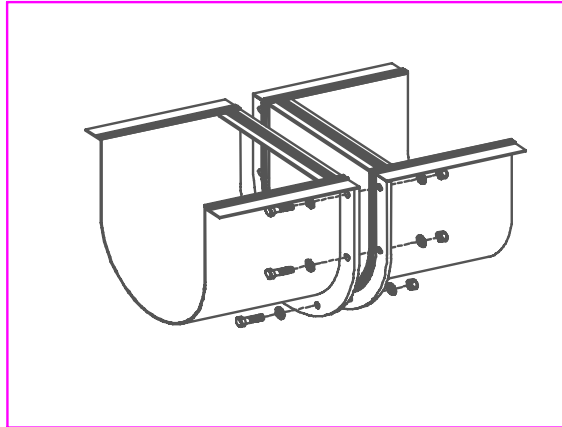

Figure 2.2a - Assembling the trough
4. Fix the trough-sections together with the bolts, nuts and washers provided (see *Figure 2.2a*)